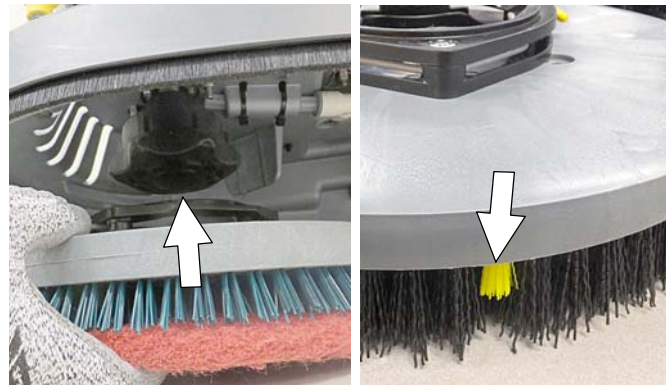

FIG. 14
4. Align the pad driver or brush under the motor hub and push it upward to engage hub (Figure 14).
Replace pads or brushes when they no longer clean effectively or when the bristles on the brush disk are worn to the yellow indicator (Figure 14).